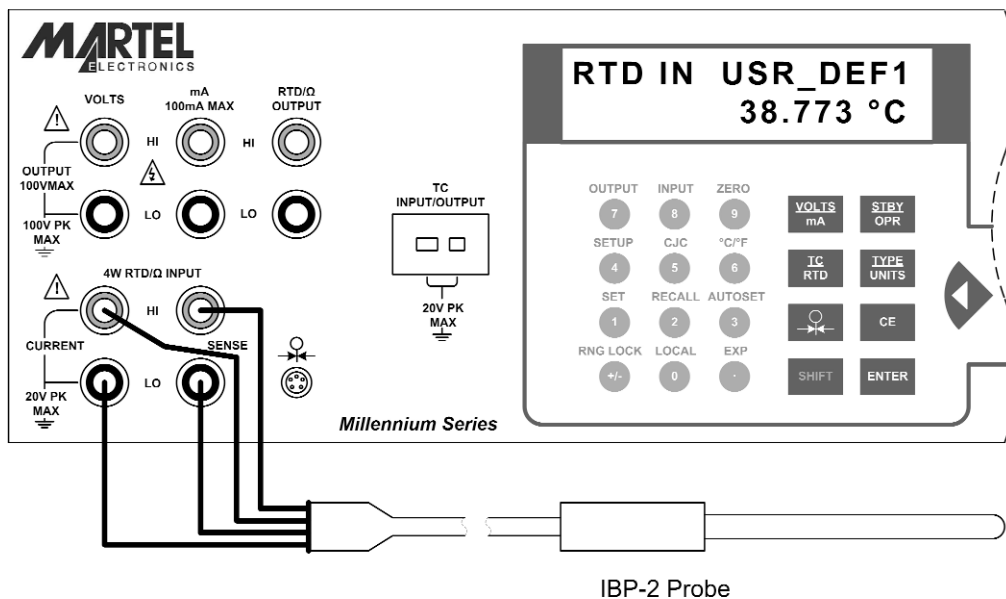

Figure 30 - Precision Temperature Measurement with IBP-2 Probe
4. Connect the probe as shown in figure 30.